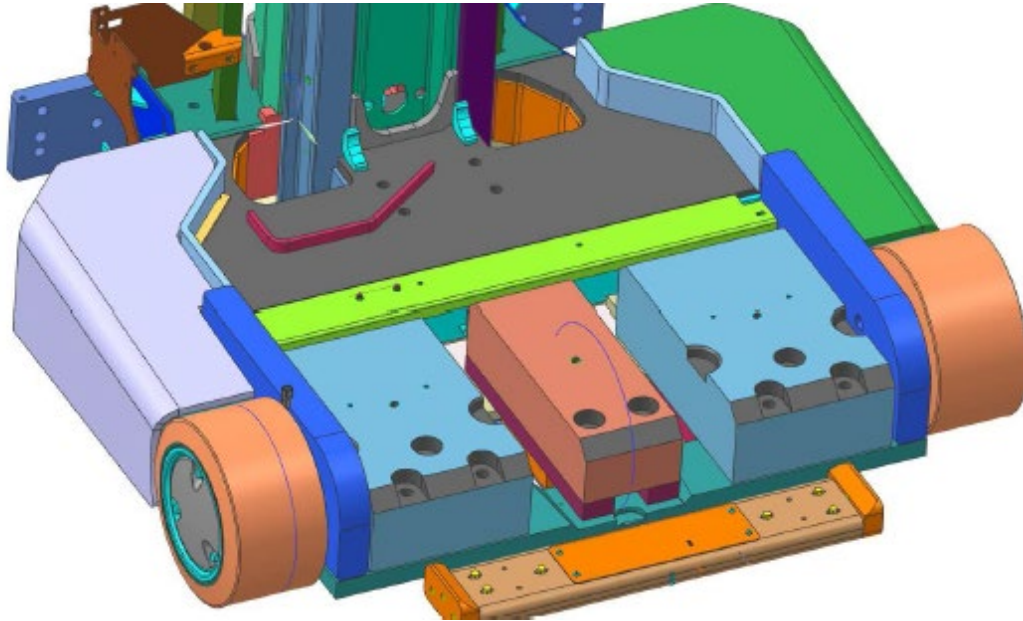

Figure 3 - Bumper Install
3.3.2.1 Part Numbers & Torque Settings [Figure 3]